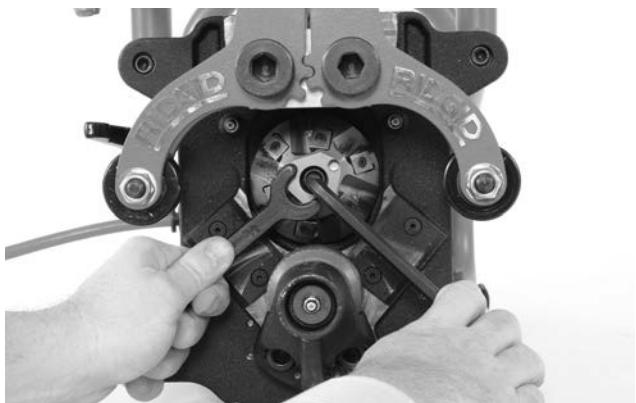

Figure 25A – Changing Cutter Heads
2. Using a $\frac{5}{16}$ " hex wrench, remove the socket head cap screw that holds the Cutter Head in place (*Figure 25A*).